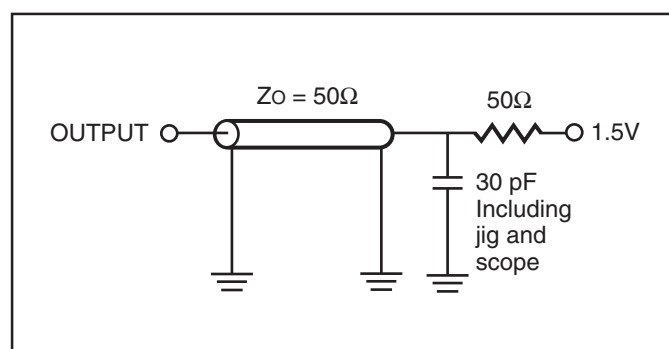

Figure 1.
- Test conditions assume signal transition times of 5 ns or less, timing reference levels of 0.9V/1.5V, input pulse levels of 0.4 to V_{DD}-0.2V/0.4V to V_{DD}-0.3V and output loadings specified in Figure 1.
- Test conditions assume signal transition times of 5 ns or less, timing reference levels of 0.9V/1.5V, input pulse levels of 0.4 to $V_{DD}-0.2V/0.4V$ to $V_{DD}-0.3V$ and output loading specified in Figure 1.